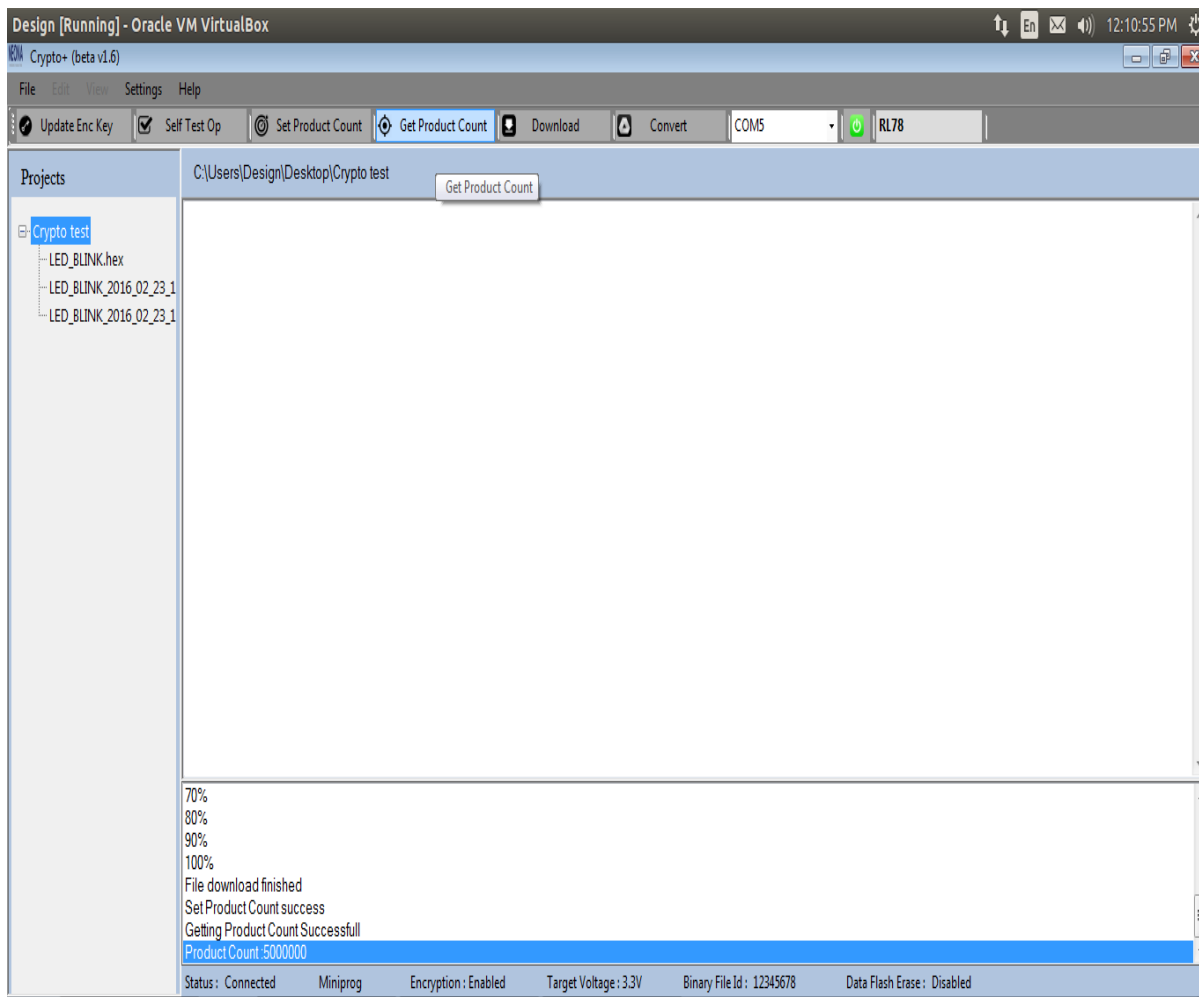

Figure 2.37
STEP 1: Click on the **Get Product Count** in the Tool-Strip as shown in figure 2.37.
STEP 2: A message **‘Getting Product count successful’** and the product count value is displayed in the text view as shown in figure 2.37.